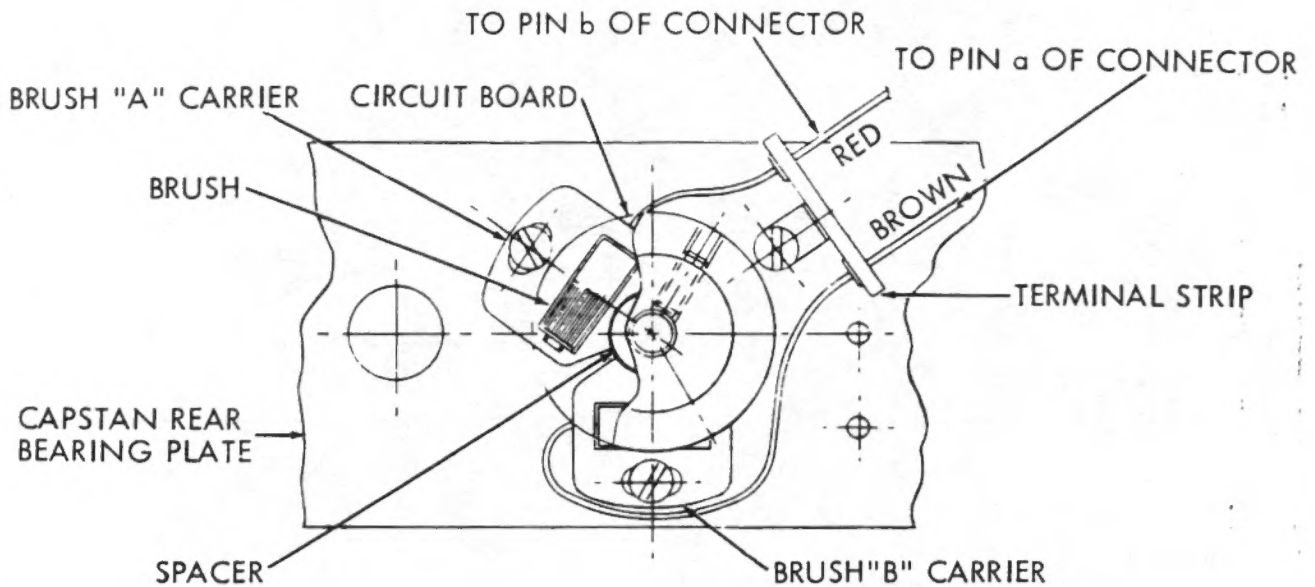

Figure 21. Capstan Commutator
7.2.2 Mechanical Operation (See Figure 21)